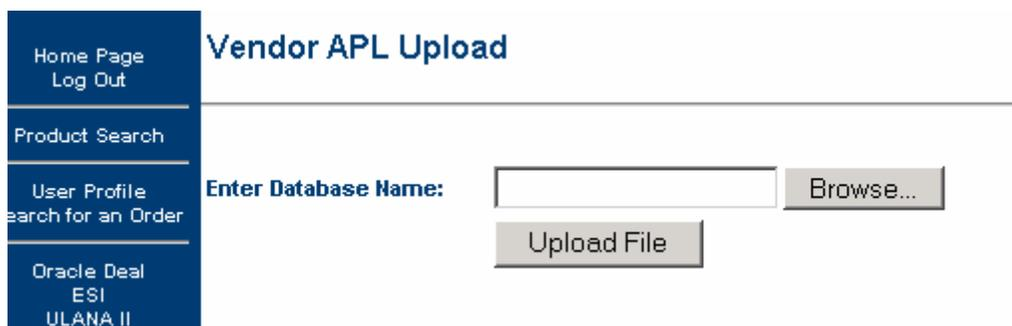

Figure 9. Upload utility
2. To upload your product catalog APL database, login, go to your user profile, select the *Product Uploads* link, browse for the file on your system, and hit the upload button (see figure 9). At this point, a pop-up box will appear prompting you to be patient and wait for the file upload to finish. Once the upload is complete, the pop-up box will change to read "Upload Complete. Please close this window to view the Vendor APL Upload results". Once you close the pop-up box, the screen states "Thank You for uploading your product catalog. An E-mail containing any validation errors will be sent to you shortly. If your product catalog was fairly large then it may take longer for your E-mail to be sent. Product catalogs with